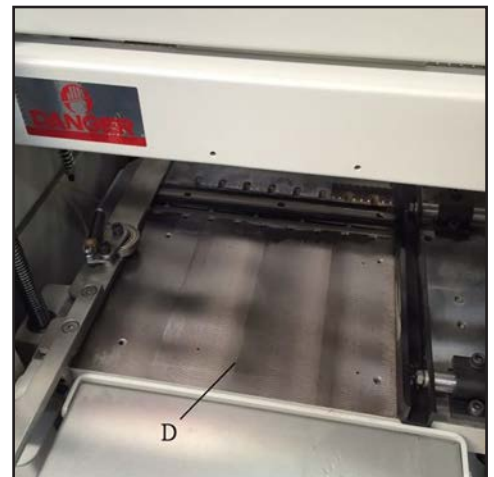

**Figure 26.** Infeed table bed without sheets installed.
When no depth-of-cut sheets are installed on the infeed table bed (D), as shown in **Figure 26**, the lower cutterhead depth of cut is 4mm.